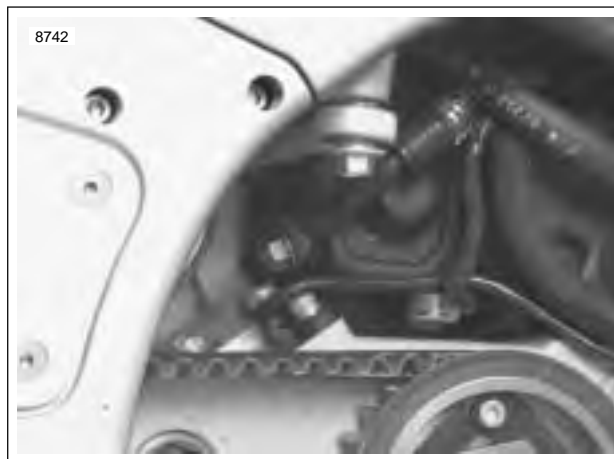

Figure 7-81. Positive Battery Cable at Starter
8. See Figure 7-81. Disconnect positive battery cable from starter.